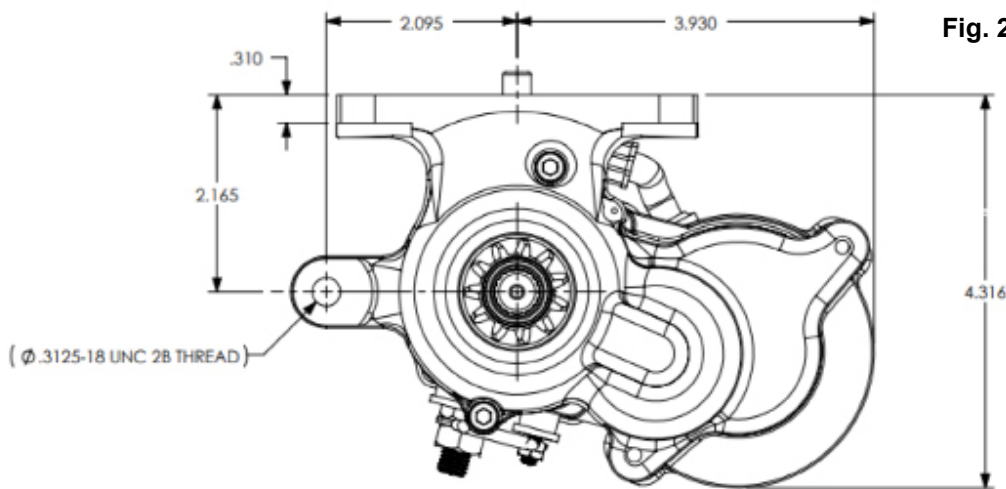

Fig. 2-2A - 149-12HT / 24HT
- (1) The battery is the source of electrical power whenever the BAT Master Switch is ON and is the source of power for starting the aircraft.
- A. The mount assembly (1) provides the mounting flange for attachment of the starter to the engine and supports the bearing through which the pinion shaft protrudes to expose the pinion gear.
- B. The solenoid/motor assembly (4) is the rotating element of the starter. Its comprised of a shaft upon which are mounted a lamination stack, conductors that form the winding and a commutator to which the windings are electrically connected.
- C. Brushes, located in the solenoid/motor assembly (4), provides a rotating connection through which the armature assembly may be electrically energized.
- D. Basic dimensions for the 122-() and 149-() HT series starters are found in Fig. 2.2A thru 2.2C. The 12 volt and 24 volt HT series starters share like dimensions.